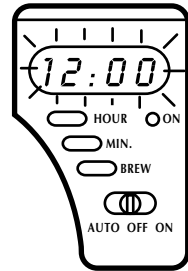

FIGURE 2
7. The LCD will flash "12:00" until you set the time. (See Figure 2.)